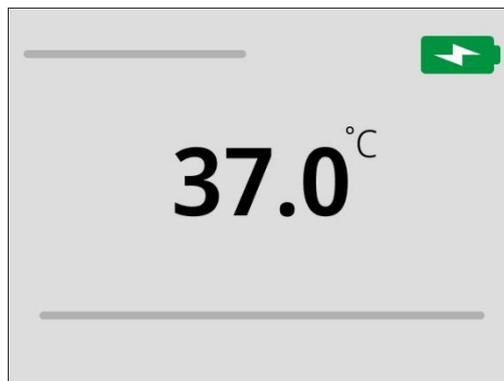

Figure 9.2 The default idle chamber display view
12. When the default temperature setpoint is reached in the chambers, the warm-up icon will disappear, and the default IDLE view will be displayed (see Figure 9.2).